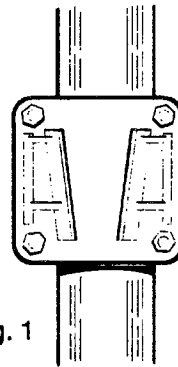
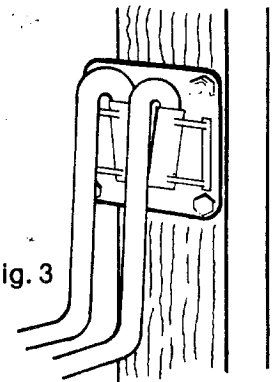

fig. 1
fig. 3
In some installations, most particularly those using high pipelines and long hoses, the shaking and vibration imparted to the Milk-o-Meter may be severe. This could affect accuracy and should be minimized. While the recommended solid pipe clamp bracket mounting will help, we have seen some "homemade" remedies that work well, one is illustrated. (fig. 1) This is made up of a hose clamp, a short length of bath tub chain and a hook provided out of 3/16" welding rod. By securing the hook over a pipe or stanchion header, other than the one holding the Meter, and leaving the hose out of the Meter Frame loop, the excessive vibration is snubbed by the chain/hook instead of being transmitted to the Meter.
1. The # 032101 Pipe Clamp Bracket is designed for mounting the meter on either vertical or horizontal pipeline. (fig. 1 & 2) It consists of a Base, two U-Bolts and a Clip. The Clip may be used for mounting on flat wall surfaces. (fig. 3)